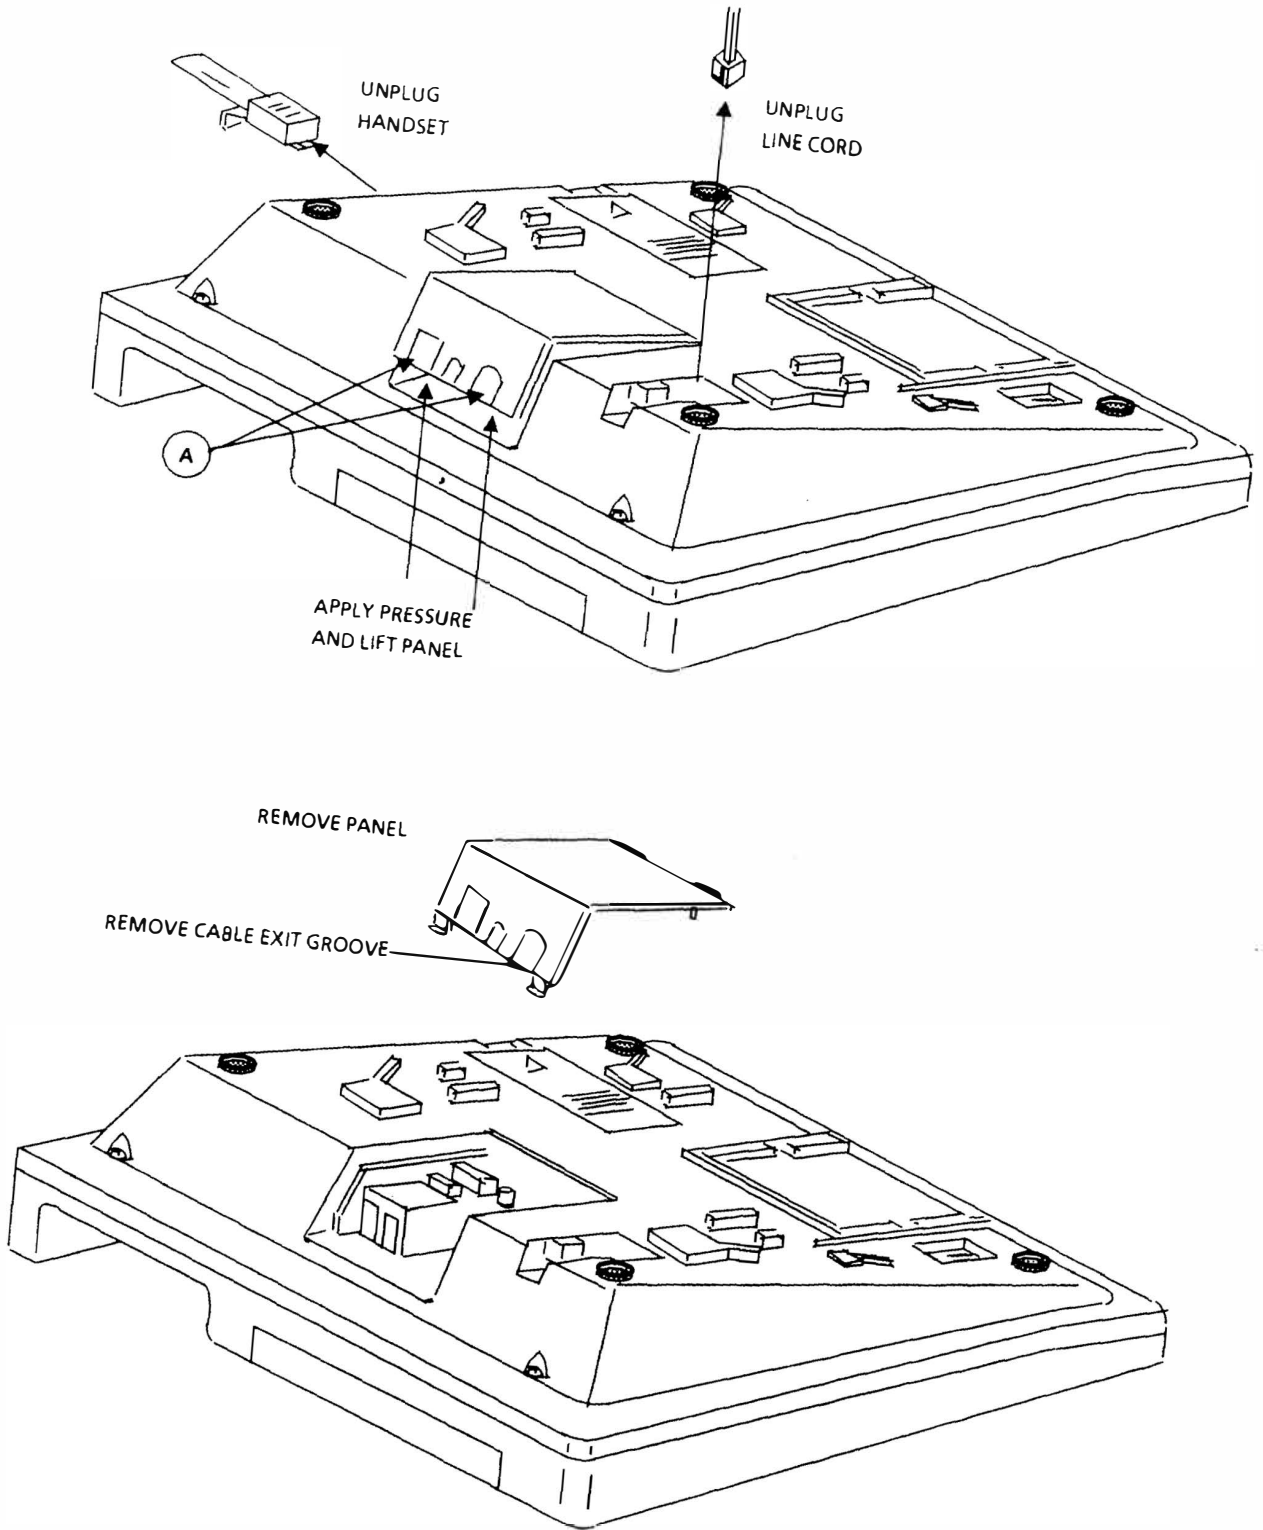

Figure 1 Access Panel Removal
- 3.12 Place the handset amplifier wiring into the cable exit groove (Figure 1) making certain that all wires are inside the housing.